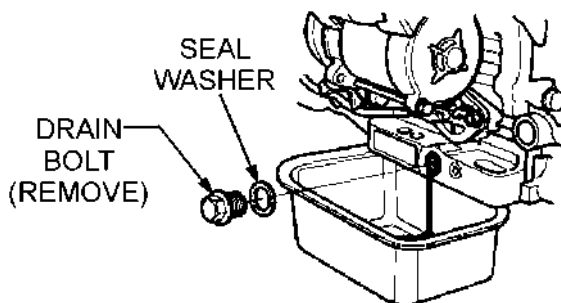

Figure 31. Draining Engine Oil
1. Drain the engine oil when the oil is warm as shown in (Figure 31).